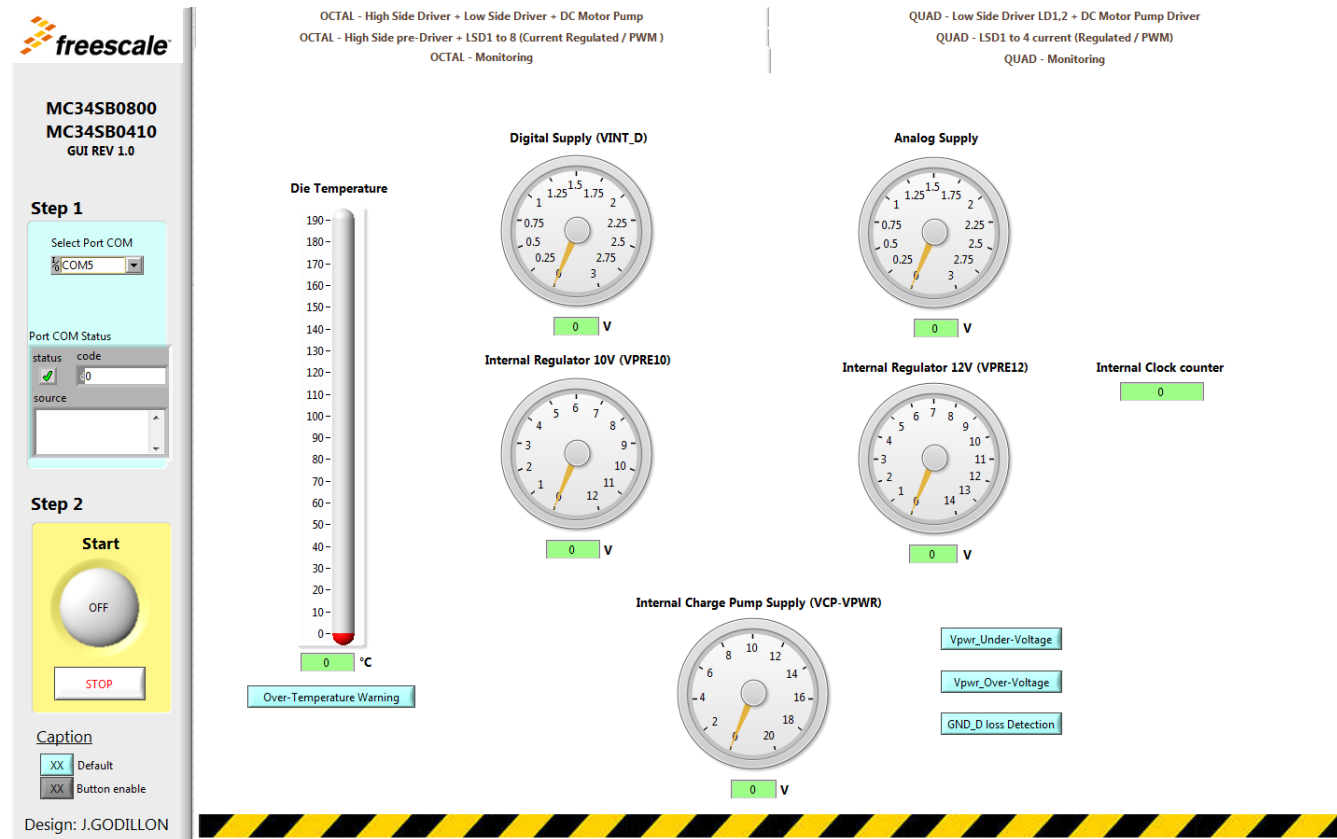

Figure 8. Octal Monitoring Screen
11. You should see the screen shown in Figure 8: